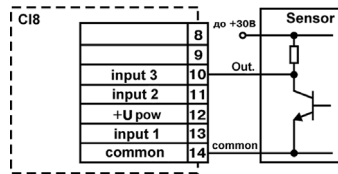

Figure 3
- active sensors with $n-p-n$ open collector transistor at the output. To feed such sensors a voltage of $+24\pm 3$ V (100 mA maximum load current) is provided on a terminal block of the device (figure 3);